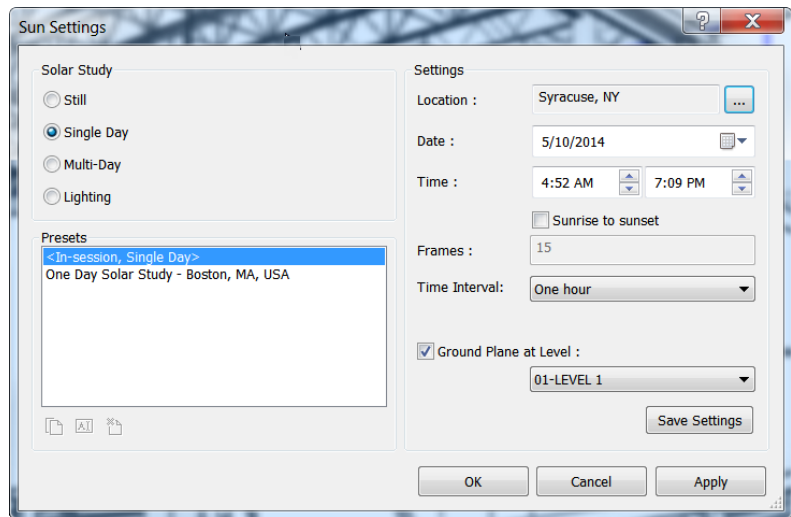

FIGURE 19.24: Setting up the solar study
5. In the Sun Settings dialog box, click the Single Day radio button, as shown in Figure 19.24.
8. Set Time Interval to One Hour (see Figure 19.24).